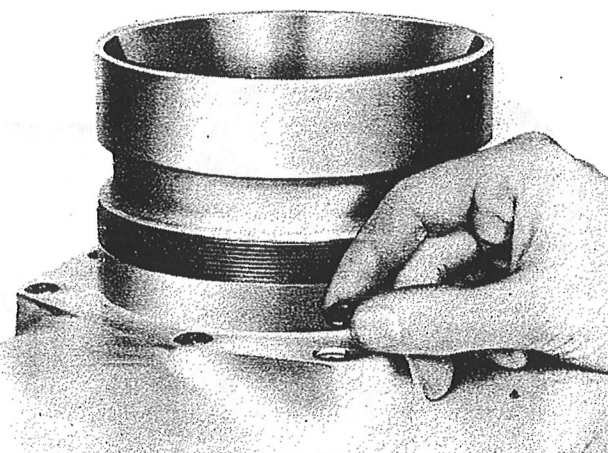

Figure 158—Installing Transfer Seal
(1) Remove the masking tape from the hub transfer ports and install new transfer seals in the hub. (See figure 158.)